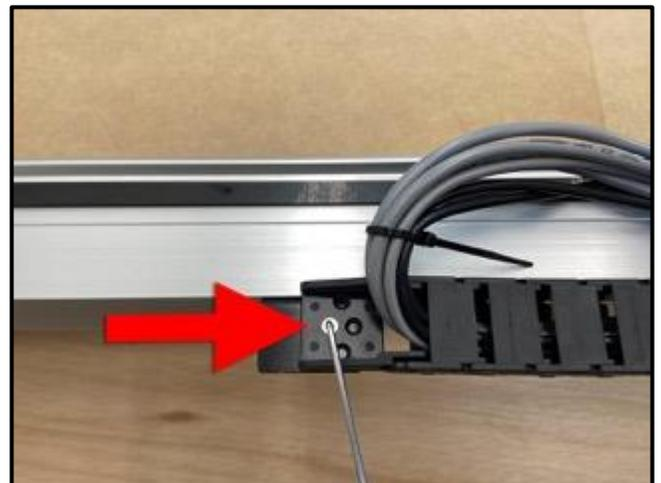

Figure 6-14
5. Use the 2mm hex key and one (1) M3x4mm flat head screw to attach the drag chain to the single PEM nut in the tail bracket at the rear. Use the center through-hole closest to the end of the drag chain. See **Figure 6-14**.